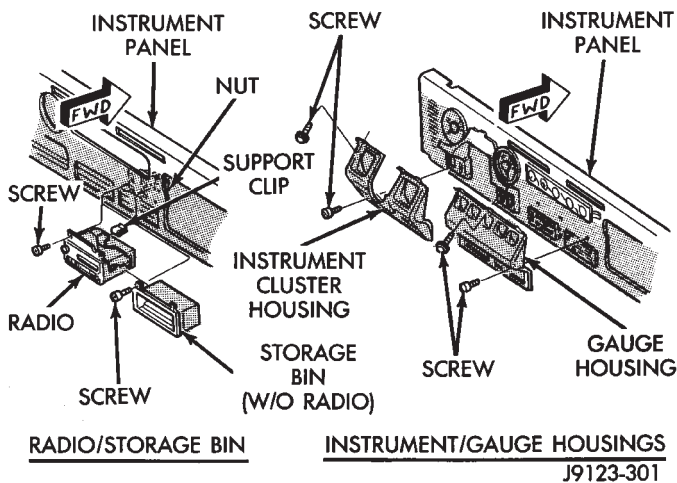
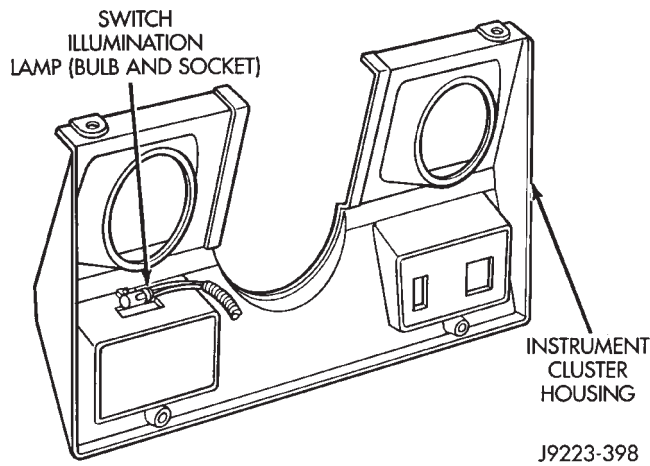
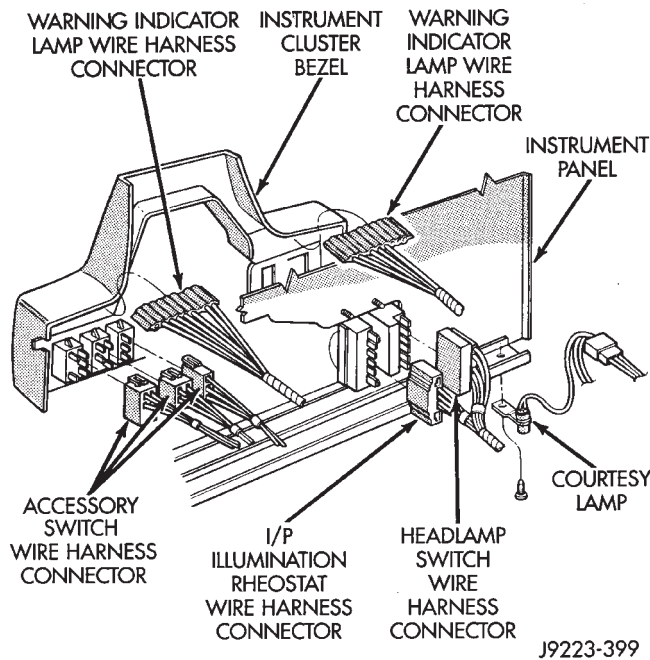

Fig. 1 Instrument Cluster/Gauge Housing and Radio
Fig. 4 Instrument Cluster Housing and Lamp
Fig. 5 Instrument Cluster Bezel
(1) Remove the instrument cluster and gauge housing attaching screws (Figs. 1, 2 and 3).
(2) Disconnect the switch illumination bulb socket from the instrument cluster housing (Fig. 4). Remove the housings from the instrument panel (Fig. 1).
(1) Position the instrument cluster and gauge housings on the instrument panel (Fig. 1). Connect the switch illumination bulb socket to the instrument cluster housing (Fig. 4).
(2) Install the attaching screws (Figs. 1, 2 and 3). Tighten the screws to 3 N·m (24 in-lbs) torque.
- (1) Remove the instrument cluster housing attaching screws (Figs. 1, 2 and 3).
- (2) Disconnect the switch illumination bulb from instrument cluster (Fig. 4). Remove the housing from the instrument panel (Fig. 1).
- (3) Remove the bezel retaining screws.
- (4) Disconnect the accessory switch, warning indicator, rheostat and lamp wire harness connectors from the bezel (Fig. 5).
- (1) Position bezel at the instrument panel and connect accessory switch, warning indicator, rheostat and lamp wire harness to bezel.
- (2) Install the bezel screws. Tighten the screws to 3 N·m (24 in-lbs) torque.
- (3) Position the instrument cluster housing on the instrument panel (Fig. 1). Connect the switch illumination bulb socket to the instrument cluster housing (Fig. 4).
- (4) Install the attaching screws (Figs. 1, 2 and 3). Tighten the screws to 3 N·m (24 in-lbs) torque.
- (1) Remove the instrument cluster and gauge housings from the instrument panel (Fig. 1). If applicable, remove the bezel from the instrument panel.
- (2) Remove the screws, disconnect the wire harness connector(s) and remove the component from the instrument panel.
- (1) Position the component at the instrument panel, connect the wire harness connector(s) and install screws. Tighten the screws to 3 N·m (24 in-lbs) torque.
- (2) If removed, install the instrument cluster bezel on the instrument panel. Install the instrument cluster and gauge housings on the instrument panel (Fig. 1).
(6) Remove the instrument cluster and gauge housings (Fig. 1) from the panel.